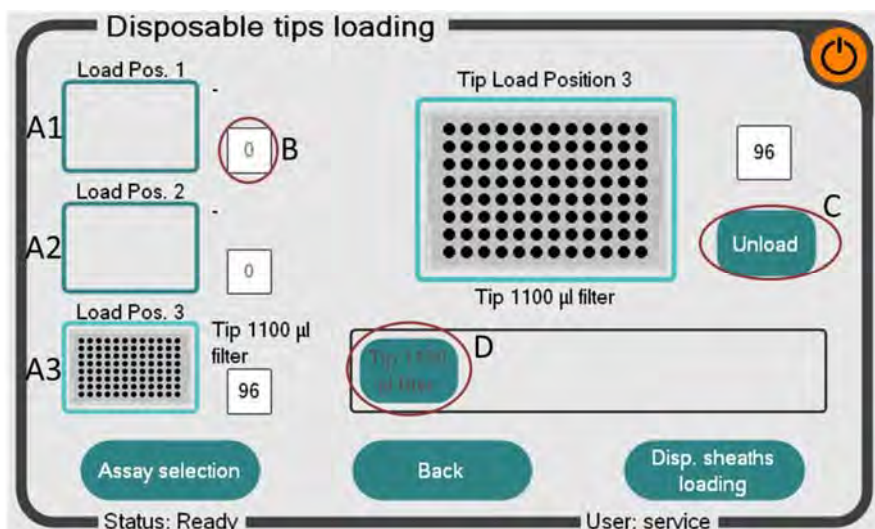

Figure 8, Disposable tip loading screen
There are three tip rack positions on the InviGenius® PLUS (Fig. 8, A1-A3). Remaining tip-numbers are shown in field (B). Tip-numbers can be changed by pressing the number-field directly.